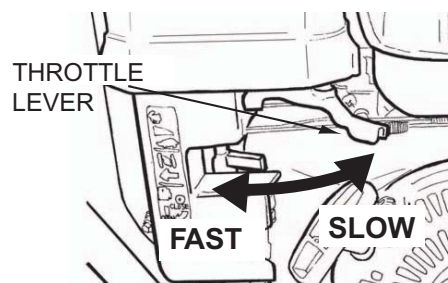

Figure 13. Throttle Lever
4. Place the throttle lever (Figure 13) halfway between fast and slow.
1. Place the throttle lever (Figure 13) in slow position, and listen for the engine speed to decrease.